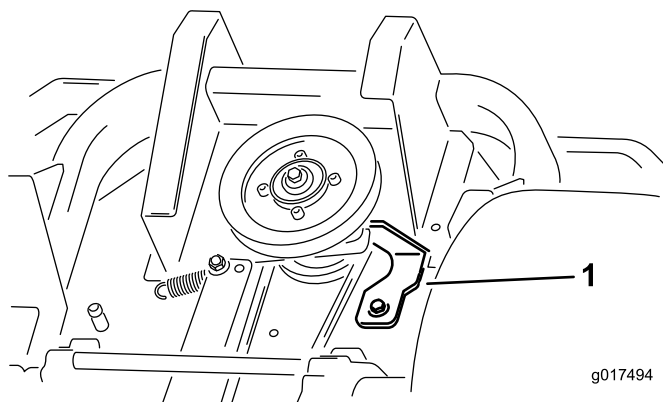

Figure 58
5. Remove the clutch stop (Figure 58).
9. Install the clutch stop (Figure 58).